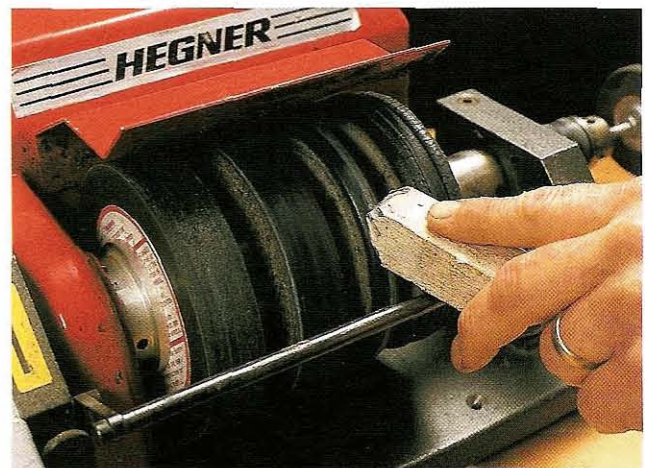

Fig 14.3 The buffing wheels must be dressed regularly with an abrasive compound, which is normally supplied by the makers
- ① When the wheel is up to speed, push the block of proprietary abrasive 'soap' against the spinning surface (Fig 14.3); the block will melt into it (except in the case of a rubberized abrasive wheel).
- ② Apply the blade; a sludge of melted abrasive builds up in front of the edge.
- ③ Move the blade as needed so the abrasive-impregnated wheel polishes the bevel and creates the fine cutting edge.